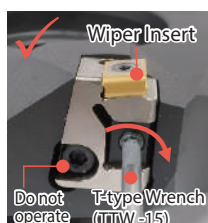

Fig. 1 Adjustment Direction
2. Thread in one direction clockwise (Fig. 1) when adjusting.